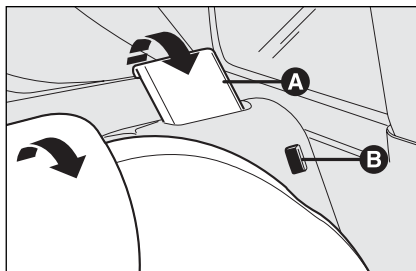

fig. 112
Lift the seat backs and push them backward until both coupling mechanisms click in place, check that the "red band" **B**-fig. 112 at the side of levers **A** is no longer visible.
*Make sure the seat back is correctly hooked on both sides ("red bands" **B**-fig. 112 not visible) to prevent seat back being thrown forwards and injuring passengers should you brake sharply.*